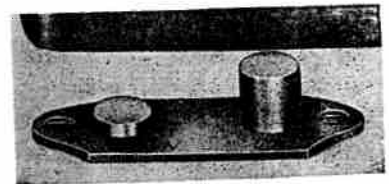

Fig. 42
2. Push drop feed button "DOWN" all the way. Fig. 42.